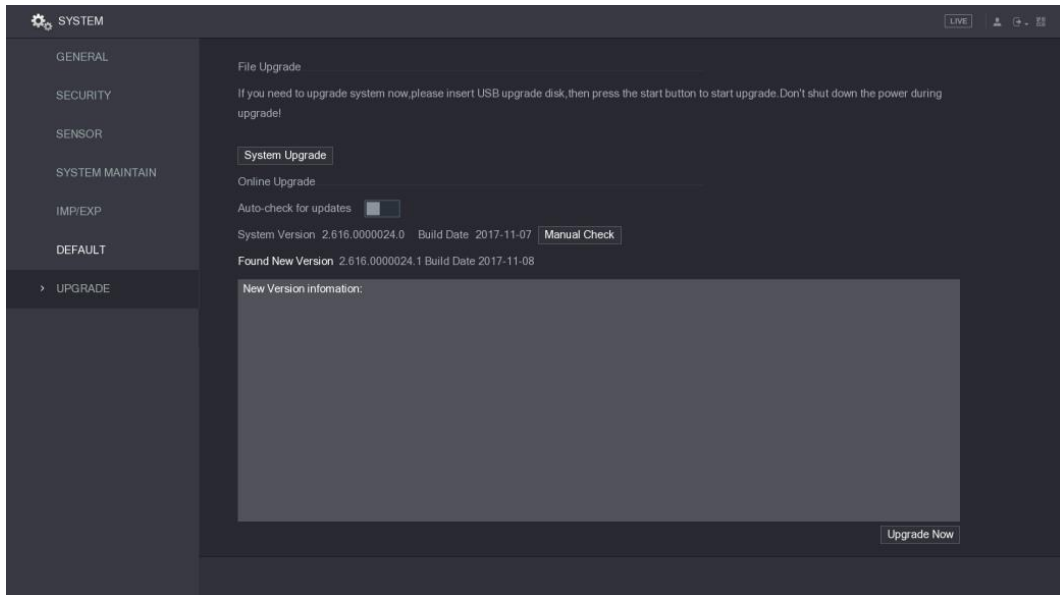

Figure 5-291
- If the text indicating there is a new version, please go the step 3. See Figure 5-291.